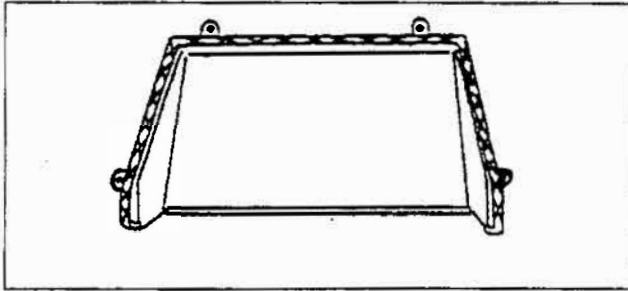

Figure 3. Ash Drop
1. Place the stove bottom upside down. Put a generous bead of cement around the top edge of the ashdrop. (**Figure 3**). Attach the ashdrop to the bottom with four hex bolts.